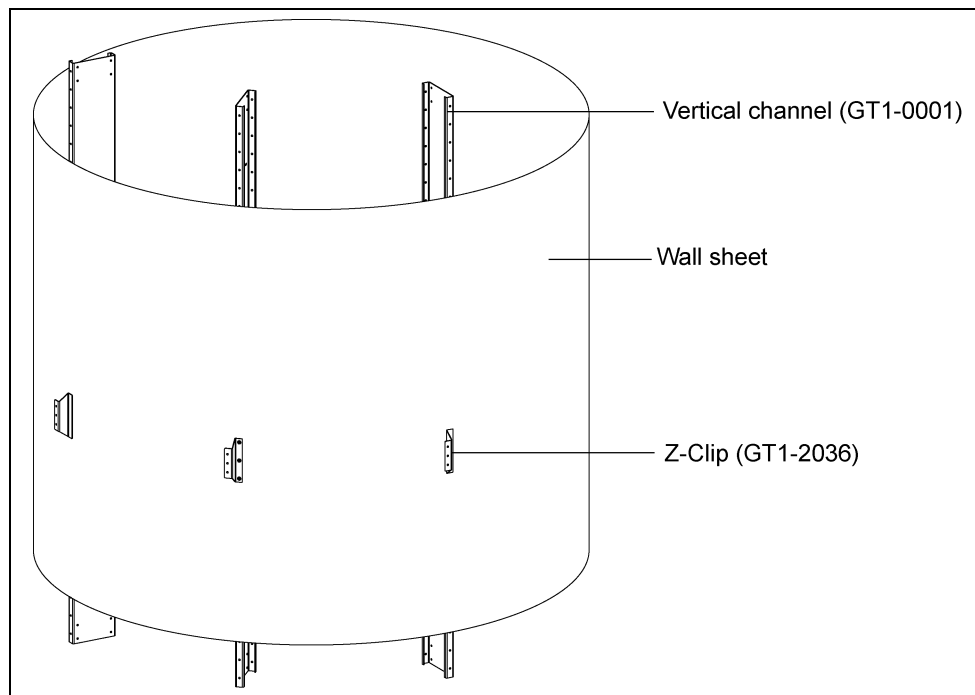
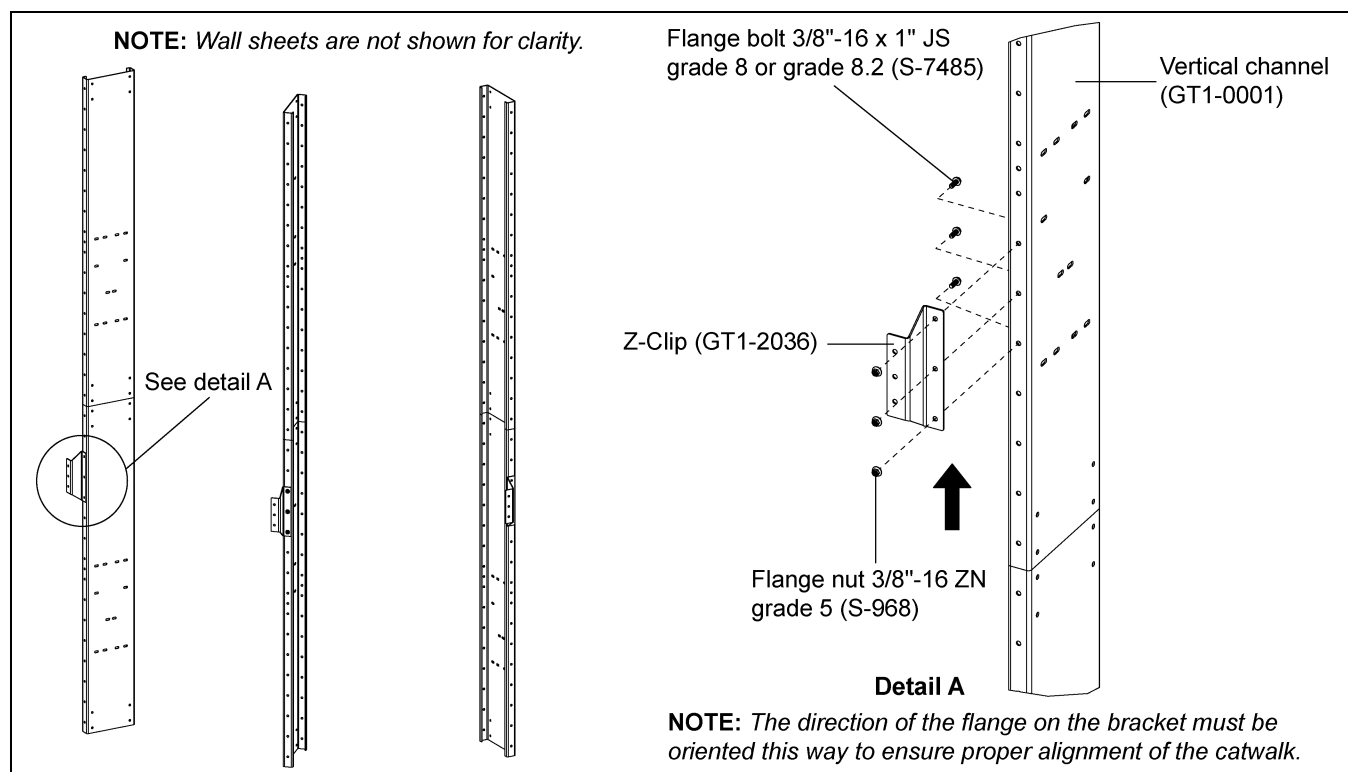
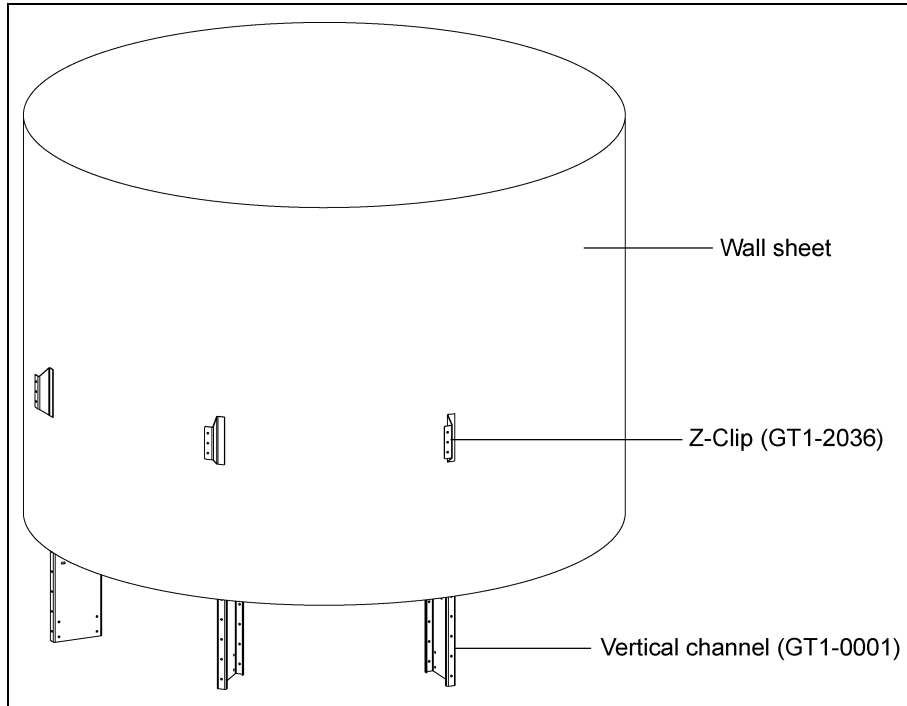
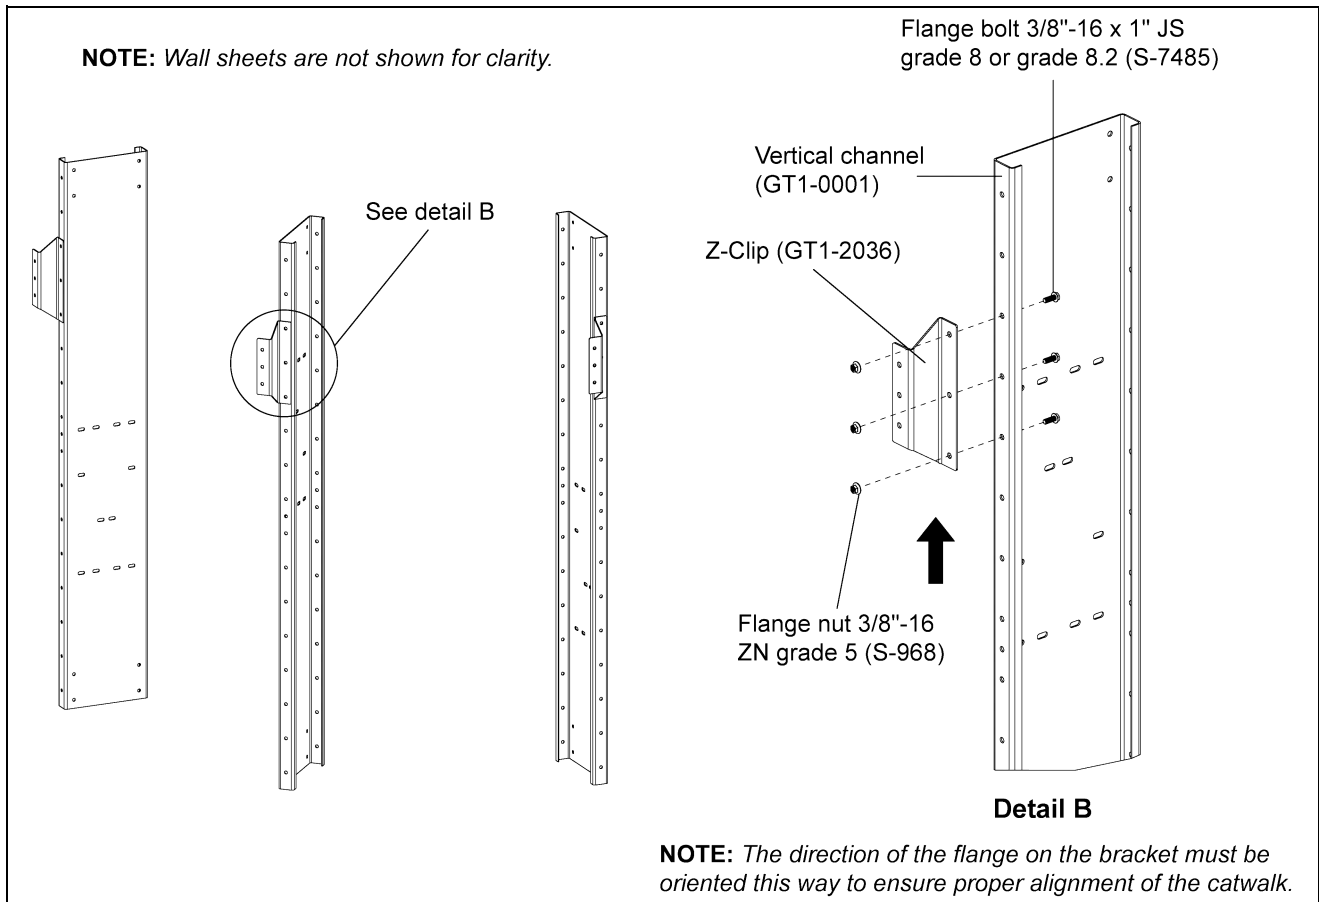

Figure 6A Offset Z-Clip Installation
Figure 6B Offset Z-Clip Installation
Figure 6C Roof Hatch Z-Clip Installation
Figure 6D Roof Hatch Z-Clip Installation
1. Bolt Z-clip (GT1-2036) to vertical channel (GT1-0001). The Z-clip can be installed on each vertical channel as the wall sheets are installed using 3/8"-16 x 1" JS grade 8 or grade 8.2 bolts (S-7485) and 3/8"-16 ZN grade 5 nuts (S-968). (See Figure 6A, Figure 6B below, Figure 6C and Figure 6D on Page 49.)